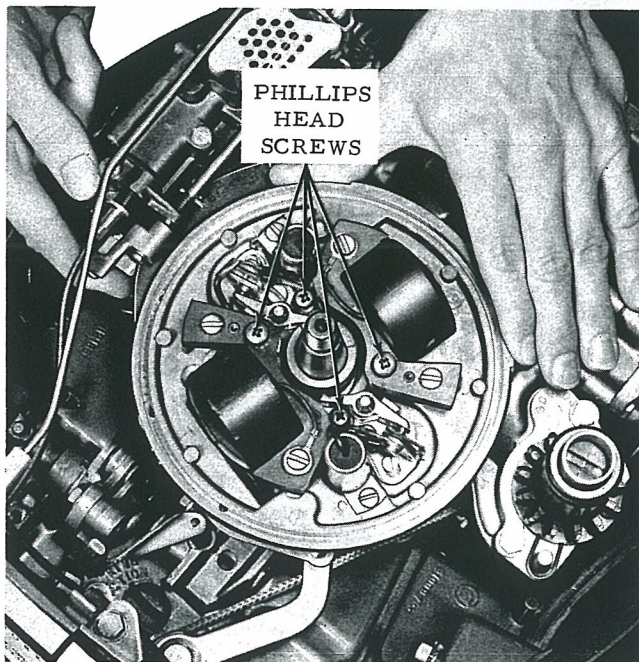

Figure 4-19. Installing Magneto
e. Make sure that throttle cam follower is not caught under throttle control cam. See Figure 4-19. Tighten the four Phillips head screws.